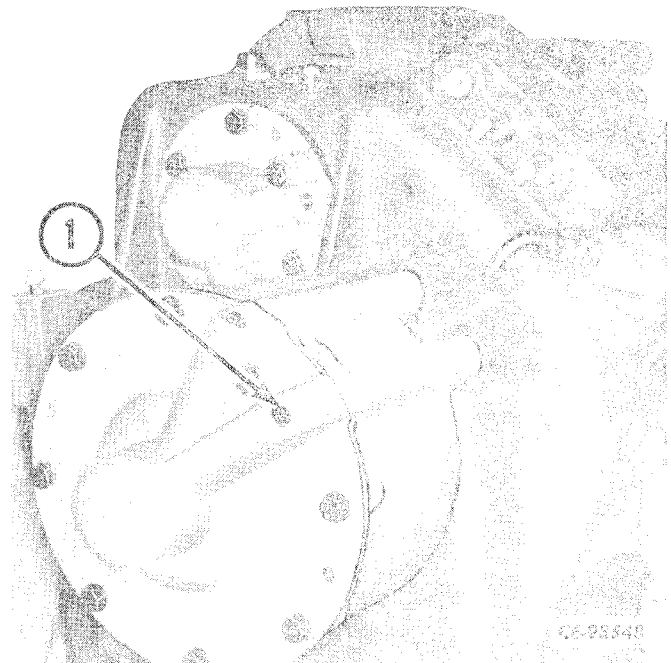

Figure 4-7
- b. Service gauge may be attached to lube pressure tap (1, Fig. 4-7) on oil supply cap.